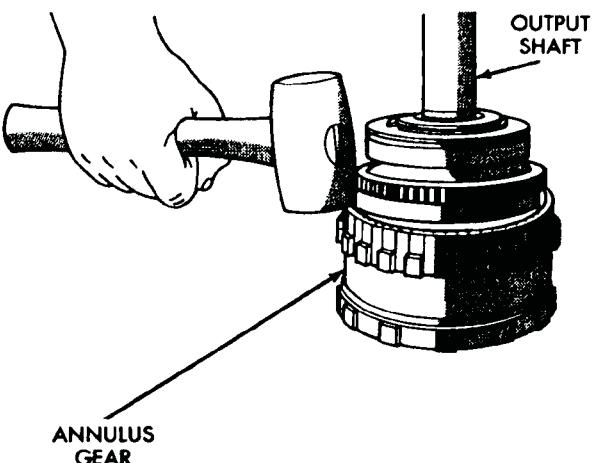

Fig. 33 Annulus Gear Removal
- (23) Remove annulus gear from output shaft (Fig. 33). Use rawhide or plastic mallet to tap gear off shaft.
- (24) Remove output shaft front bearing if not previously removed.